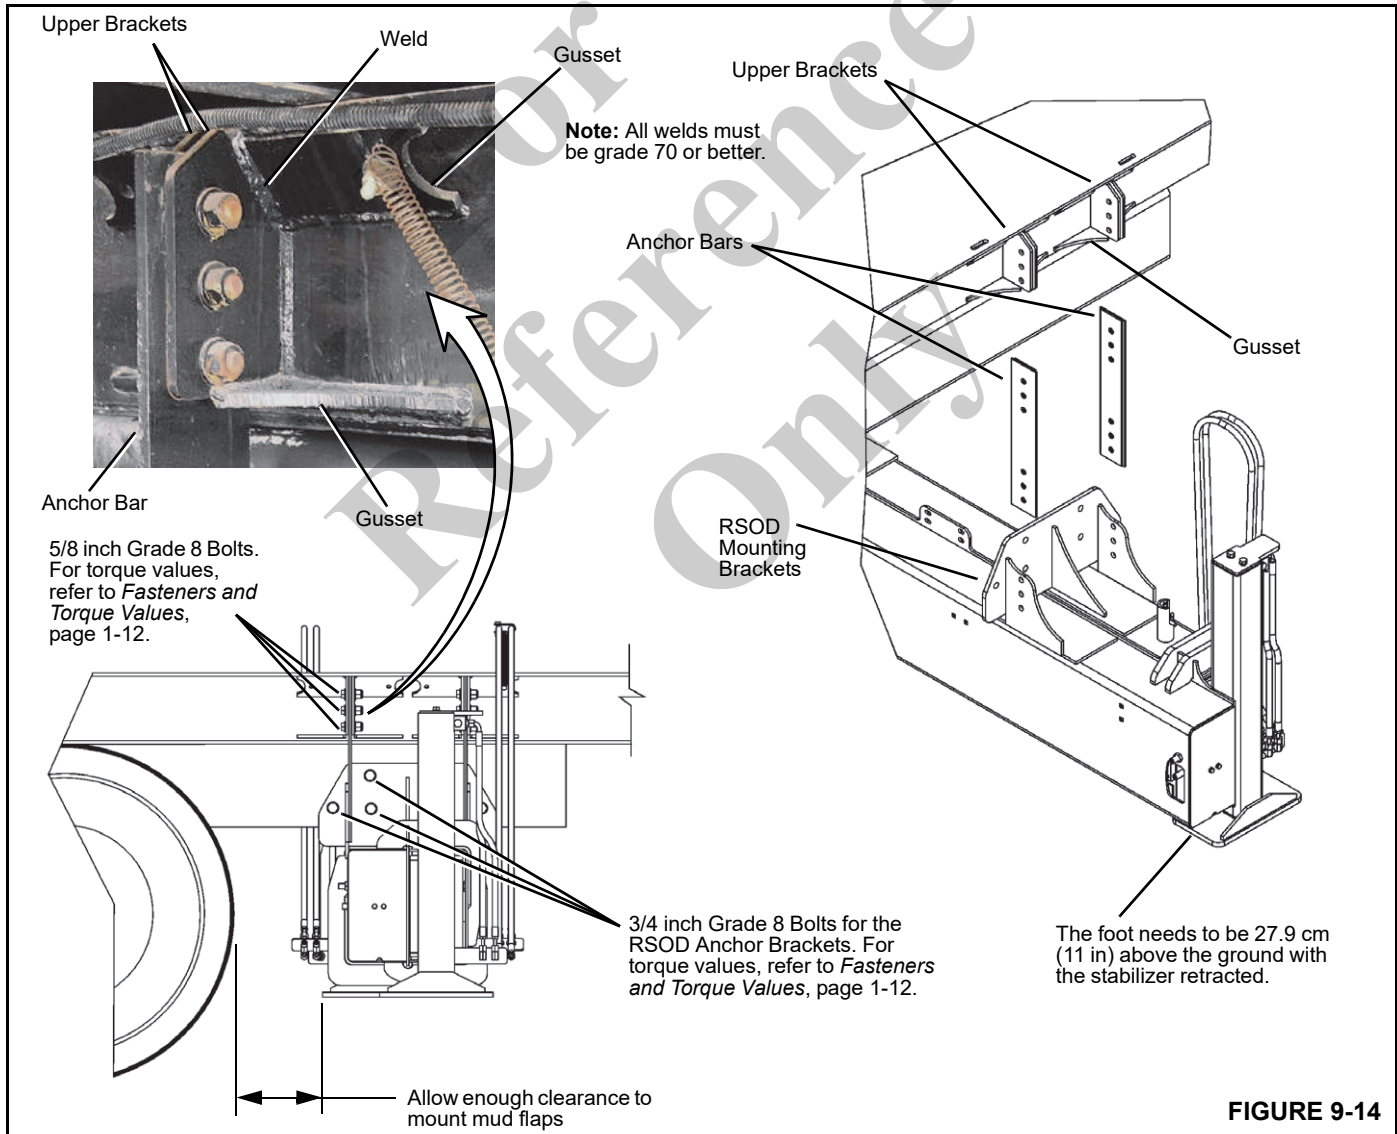

FIGURE 9-14
1. Position the RSOD on the truck frame so that there is about 30.4 cm (12 in) between the rear tire to the front of the RSOD Figure 9-14. This should be enough clearance for mounting the mud flaps.